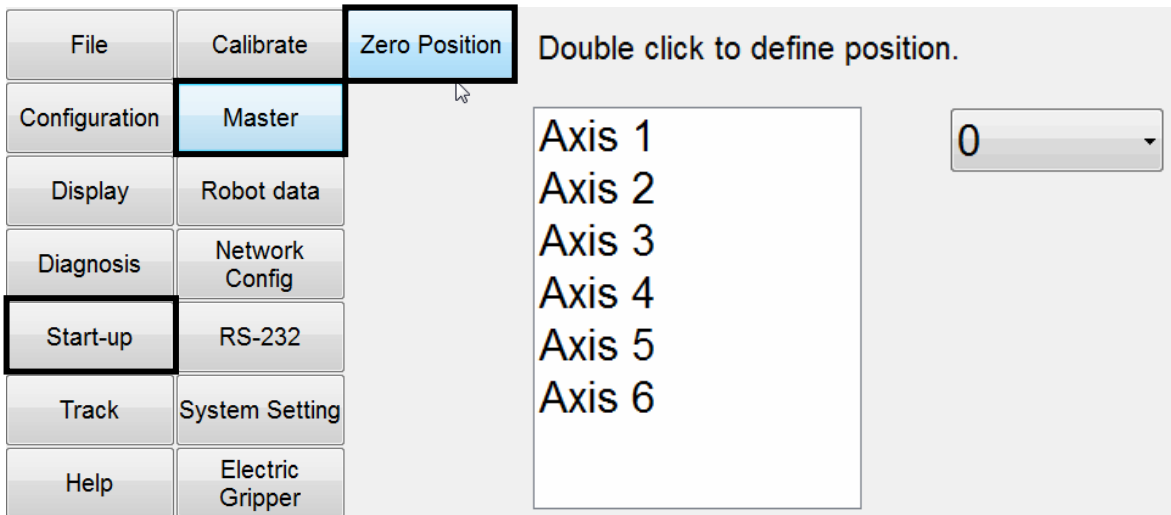

Figure 4-8 Clear encoder by HRSS
Step4. Double click the axis to clear encoder. (As shown in Figure 4-8)